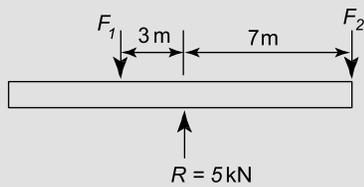

Figure 5.6
**Problem 5.** For the centrally supported uniform beam shown in Figure 5.6, determine the values of forces  $F_1$  and  $F_2$  when the beam is in equilibrium.